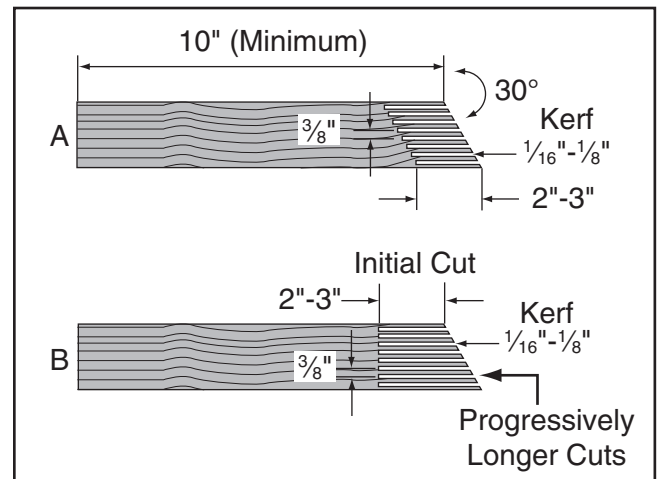

Figure 90. Patterns for featherboards (top view shown).
3. Make a series of end cuts with the grain $\frac{3}{8}$ "- $\frac{1}{4}$ " apart and 2"-3" long, as shown in **Figure 90 (A)**. Alternatively, start cuts at 2"-3" deep, then make them progressively deeper, as shown in **Figure 90 (B)**.